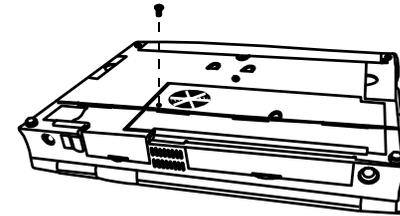

Figure 7-15. Removing the Compartment Cover Screw
4. TO REPLACE THE COMPARTMENT COVER, FIRST INSERT THE COVER OUTER EDGE (NEAR THE REAR OF THE NOTEBOOK) AT AN ANGLE, PUT DOWN THE COVER, AND THEN SLIDE IT TOWARD THE RIGHT. SECURE WITH ONE SCREW. (ref fig 7-15,7-16)
- 2.TO REPLACE THE COMPARTMENT COVER, FIRST INSERT THE COVER OUTER EDGE(NEAR THE REAR OF THE NOTEBOOK) AT AN ANGLE, PUT DOWN THE COVER, AND THEN SLIDE IT TOWARD THE RIGHT. SECURE WITH ONE SCREW. (ref fig 7-15,7-16)